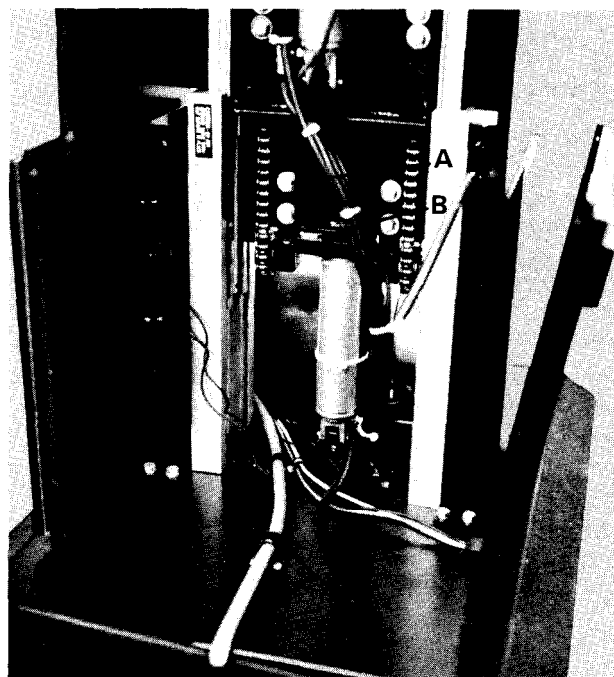

Fig. 22
Excessive sideways play of the table may be due to loose chains. Chain looseness will be noticed only on the lower portion of the chain loop near the idler sprockets (see Fig. 22). Adjustments may be done as follows:
- 3) Loosen the (4) bolts, Item A, Fig. 22 with a 9/16" wrench.
- 4) Insert a prybar or large screwdriver in the center of the slot, Item B, Fig. 22 and pry up firmly. While prying up, tighten the (4) bolts, Item A, Fig. 22. The chains should not be drum tight, but with a little spring back and there should be equal tension in both chains.
- 3) Remove strain relief bushing, Item C, Fig. 22 from cord by grasping bushing with hand pliers (See Special Tools on Page 19), squeezing tab on bushing, and pulling bushing out of hole in bracket.
- 7) Insert new cord through bracket (See Fig. 22) and install strain relief bushing using the hand pliers, (See Special Tools on Page 19).